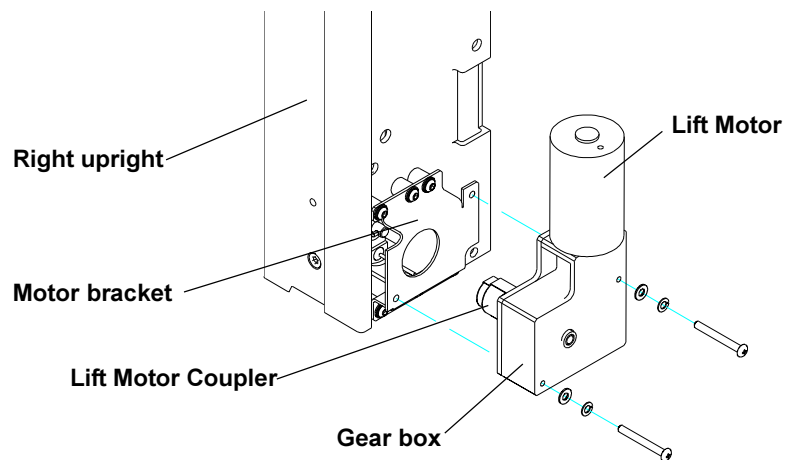

Figure 5-6
5.231 Removing the inner rail assembly (Figure 5-6 , 5-8 and 5-17)